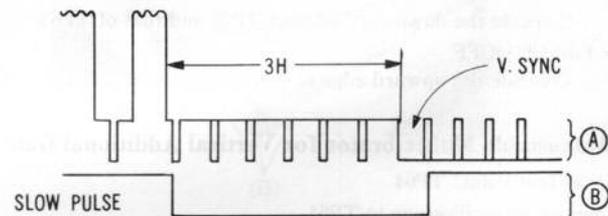
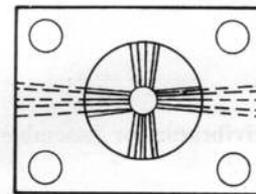

Fig. 51
Fig. 52
6. Adjust R285 so that the slow pulse should be set at  $3\pm 1$  H before the vertical sync signal as shown in Fig. 51.
7. Adjust R3302 so that the amplitude of slow pulse (B) and the amplitude of V. sync (A) become equal.
**Note:** In this adjustment, fully turn the slow speed control counterclockwise, and stop the tape running. Adjust the tape position so that the noise comes to center of screen as shown in Fig. 52, and make slow motion playback.